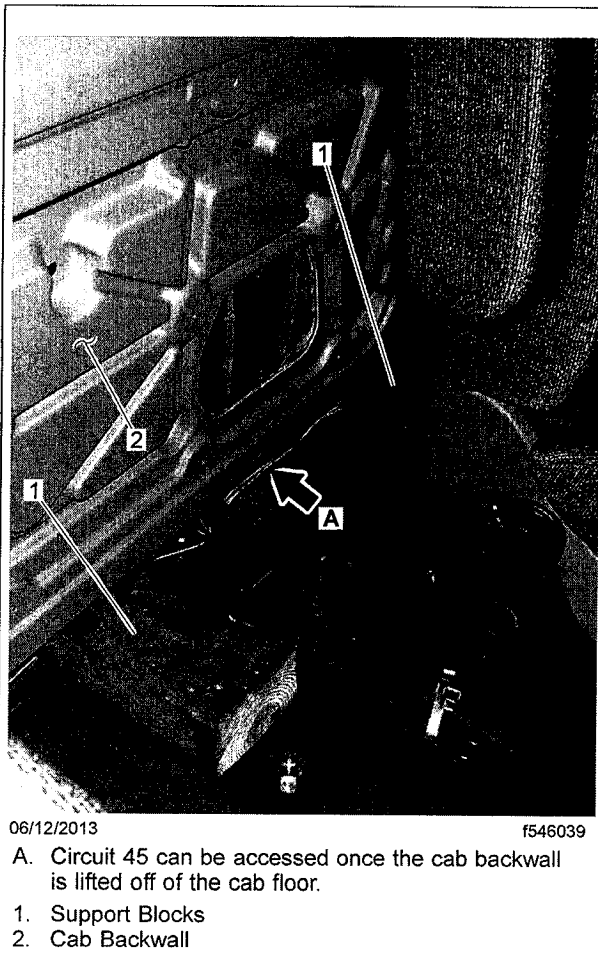

Fig. 3, Support the Cab Backwall with Blocks (daycabs)
- On daycabs, move the driver and passenger seats as far forward and possible. Remove the backwall upholstery panel and the backwall panel. Support the backwall panel with blocks to gain access to the Qualcomm wiring. See **Fig. 3**.